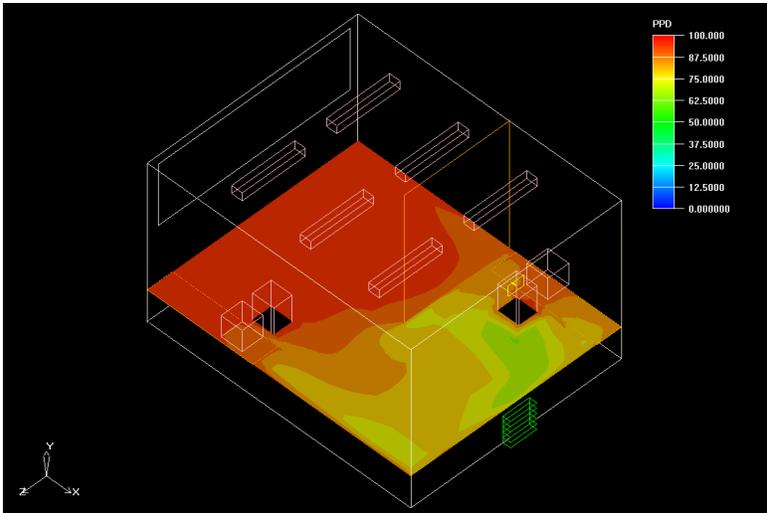

Figure 1.18: Predicted Percent Dissatisfied (PPD) in Working Plane
- (l) Click **Done** to close the **Plane cut contours** panel and display the contours of PPD, as shown in Figure 1.18.